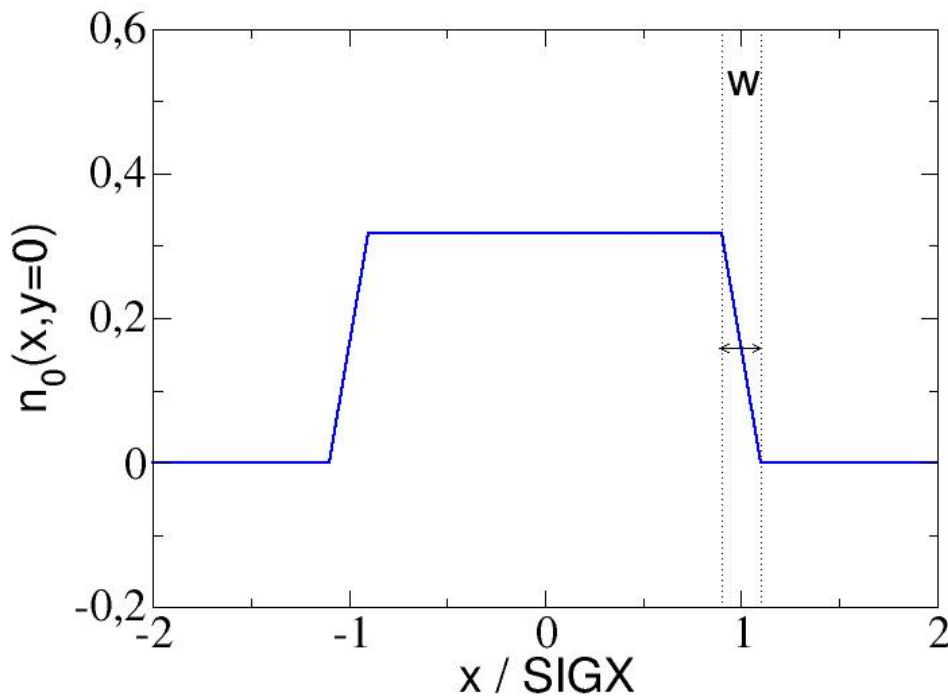

Figure 10.2: Trapezoidal shape of radial density for beam-beam lens.
- **BBSHAPE=2**: trapezoidal shape (see fig.10.2). **SIGX**, **SIGY** are the half widths of density profile, *i.e.* distance from the centre to half edge region with linear decrease of density in horizontal and vertical directions. Only circular opposite beam is possible, *i.e.* in the calculations $SIGX' = SIGY' = (SIGX + SIGY) / 2$ is used, if **SIGX** and **SIGY** have different values. **WIDTH** denotes the full width of the edge region in units of **SIGX** (or $SIGX'$ and $SIGY'$, respectively, if **SIGX** and **SIGY** are not equal), *i.e.* if **WIDTH**=0.01 and **SIGX**=5mm, the edge region has a full width of 0.05 mm. Condition: **WIDTH** < 2.0.